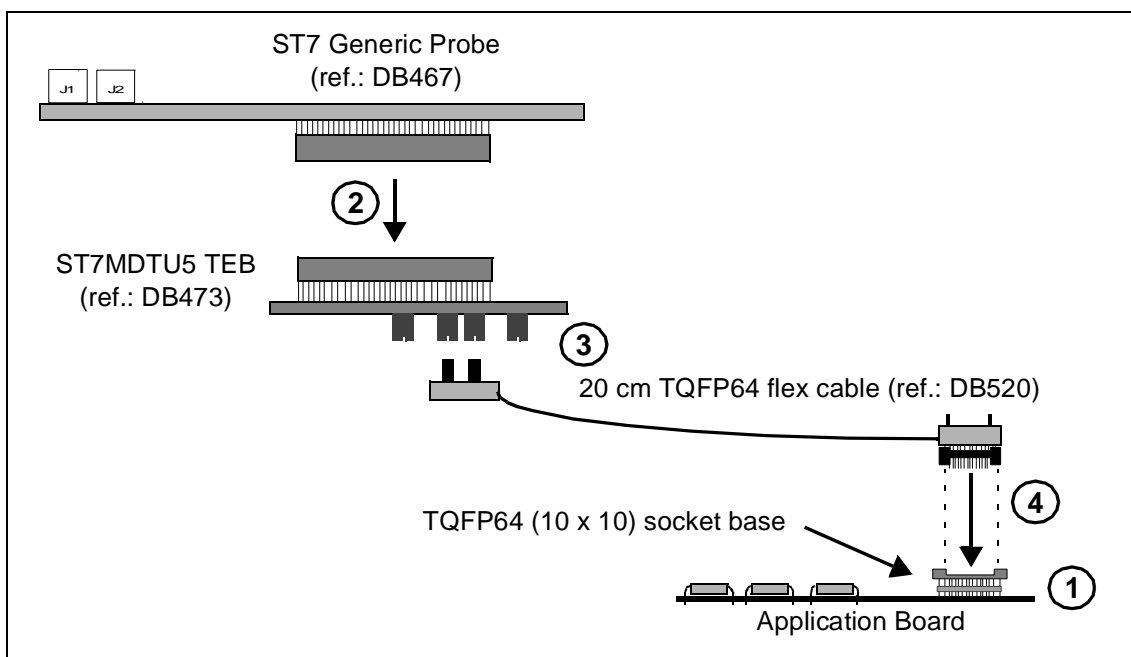

Figure 8: TQFP64 MCU package connections
If you are using the TQFP64 10 x 10 package, proceed as follows (see Figure 8):
- 5 Now use the four screws supplied to fasten this entire assembly together through the holes located on the TQFP64 flex cable connector as indicated in Figure 8.